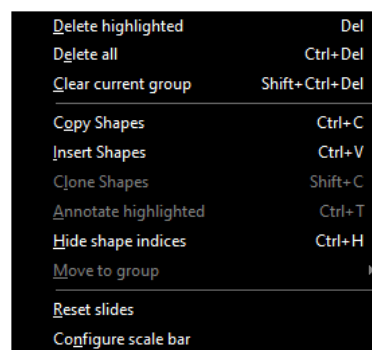

Figure 5.26: *Context menu, open with the right mouse button in the image panel.*
- Using the context menu (Fig. 5.26)
To delete all shapes, or all shapes from the current group, use the context menu (Fig. 5.26) or use the corresponding keyboard shortcuts *Ctrl + Del* and *Ctrl + Shift + Del*.
To start, select the shape you would like to clone and select *Clone...* from the context menu (Fig. 5.26).
Highlighted shapes can be annotated with your comments, by using the *Annotate highlighted* menu in the popup menu Fig. 5.26. A small popup window
The popup menu shown in Fig. 5.26 or using the shortcut *Ctrl + H* also allows to hide the shape indices. This can be helpful if many shapes exist. In this case hiding indices also accelerates the drawing.
The popup menu shown in Fig. 5.26 also allows to move highlighted shapes into another group. This allows to correct the group assignment in case you forgot to select the correct group before drawing the shapes.
For convenience the popup menu shown in Fig. 5.26 also allows to reset slides. This means
The popup menu shown in Fig. 5.26 also allows to configure the colors and thickness of the scalebar shown in the right lower corner of the image panel.